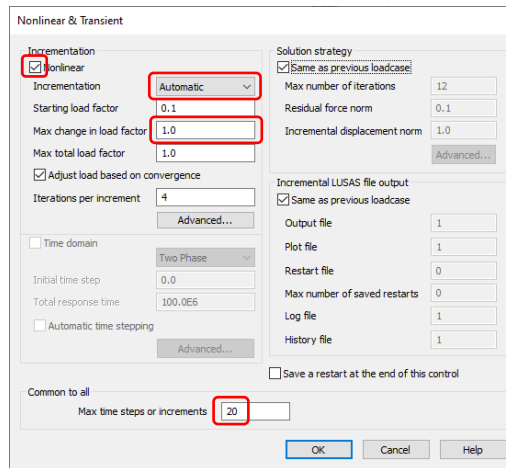

Figure 47: Nonlinear parameter settings
- In the Analyses  treeview, right-click on **1st excavation** and select **Controls > Nonlinear and transient....** On the dialog ensure that the tickbox **Nonlinear** is checked and select **Automatic** from the **Incrementation** drop-down list. Set the **Max change in load factor** to **1.0** and finally the **Max time steps or increments** to **20** (figure 47).
- In the Analyses  treeview, right-click **Install upper anchor** and select **Controls > Nonlinear and transient...** On the dialog ensure that the tickbox **Nonlinear** is checked and select **Automatic** from the **Incrementation** drop-down list. Set the **Max change in load factor** to **1.0** and finally the **Max time steps or increments** to **20** (figure 47).
- In the Analyses treeview, right-click on **1st de-watering** and select **Controls > Nonlinear and transient...** On the dialog ensure that the tickbox **Nonlinear** is checked and select **Automatic** from the **Incrementation** drop-down list. Set the **Max change in load factor** to **1.0** and finally the **Max time steps or increments** to **20** (figure 47).
- In the Analyses  treeview, right-click on the **2nd Excavation** and select **Controls > Nonlinear and Transient**. Check the **Nonlinear** tickbox. Set **Incrementation** to **Automatic**, **Max change in load factor** to **1.0** and **Max time steps or increments** to **20** and click **OK** (figure 47).
list. Set the **Max change in load factor** to **1.0** and finally the **Max time steps or increments** to **20** (figure 47).
- In the Analyses treeview, right-click on **2nd de-watering** and select **Controls > Nonlinear and transient....** On the dialog ensure that the tickbox **Nonlinear** is checked and select **Automatic** from the **Incrementation** drop-down list. Set the **Max change in load factor** to **1.0** and finally the **Max time steps or increments** to **20** (figure 47).